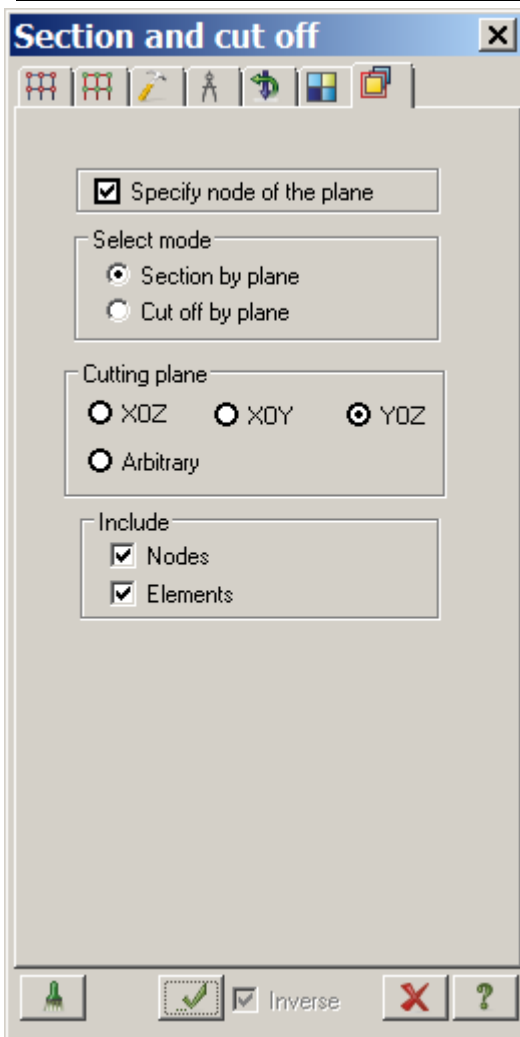

Figure 4.18 **Section and cut off** dialog box
- ⇒ In the **PolyFilter** dialog box, click **Section and cut off** tab (the last tab) (see Fig.4.18).